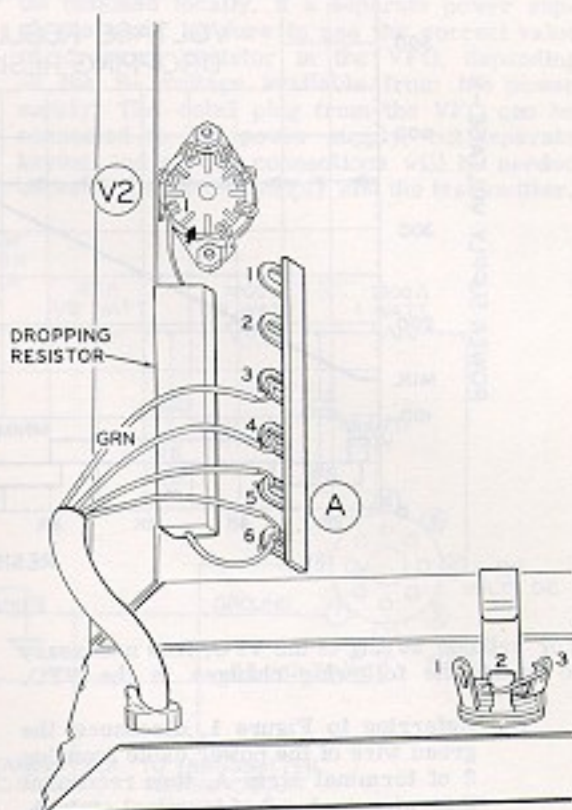

Figure 1
- () Disconnect the green wire of the power cable from lug 2 of terminal strip A, then reconnect this wire to lug 3 of terminal strip A. See Figure 1.
- () Clip out the bare wire connected between lugs 2 and 3 of the KEY jack. See Figure 1.
- () Referring to Figure 1, disconnect the green wire of the power cable from lug 2 of terminal strip A, then reconnect this wire to lug 3 of terminal strip A.